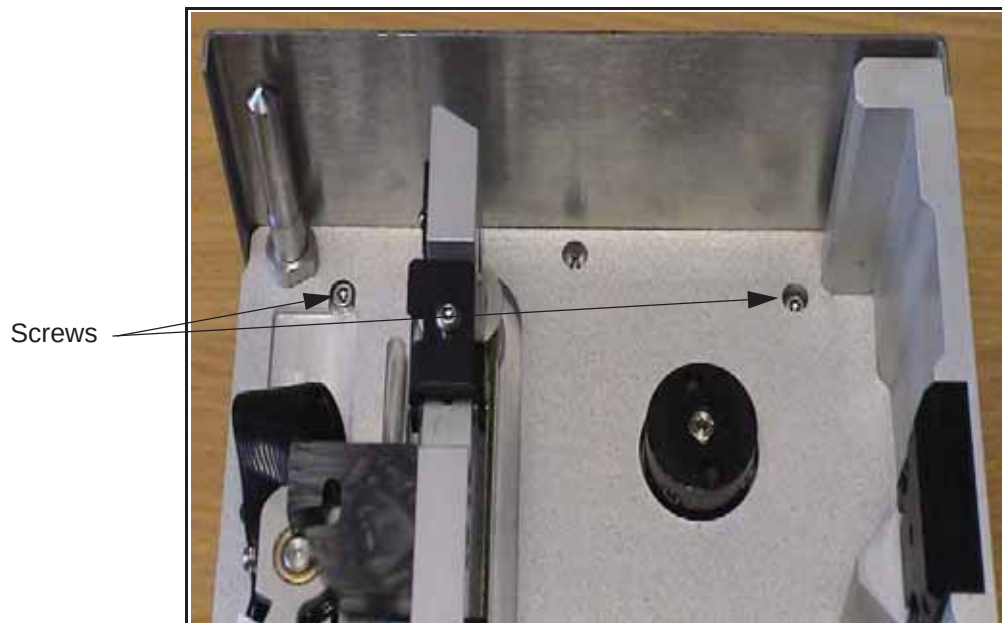

Figure 5-14: Cassette Screws Removal
- 2 Locate and remove the 2 screws (Figure 5-14).